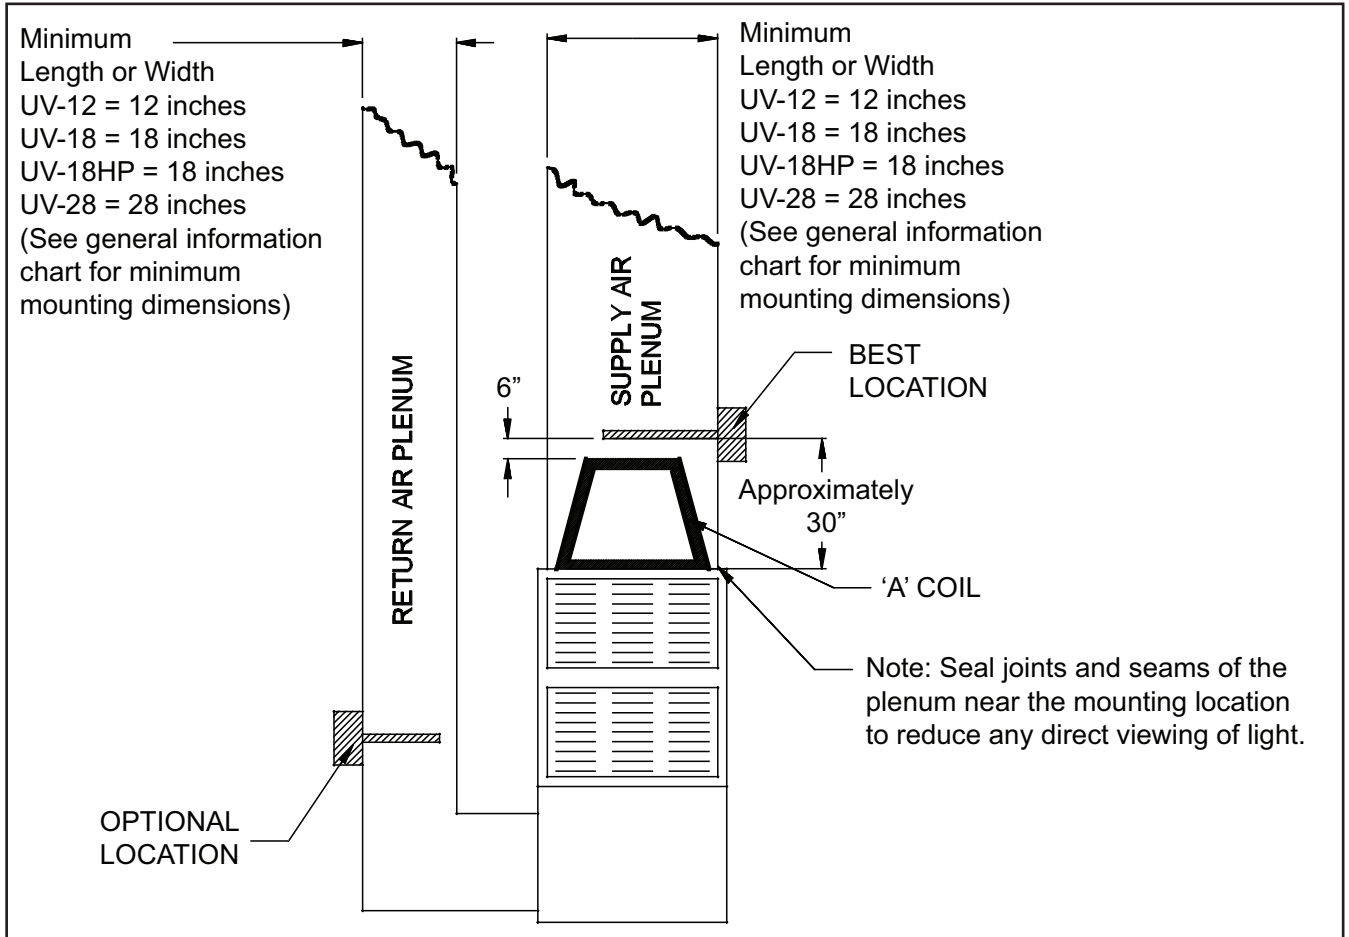

Figure 1
1. Locate a suitable location for the unit downstream from the 'A' coil in the supply plenum or in the return plenum; preferably downstream from the air filter. For optimum cleaning effect on the 'A' coil, mount the unit in the supply plenum as close as possible to the 'A' coil. (See Figure 1)
**NOTE:** Seal the joints and seams of the plenum near the mounting location to reduce any direct viewing of light. (See Figure 1)